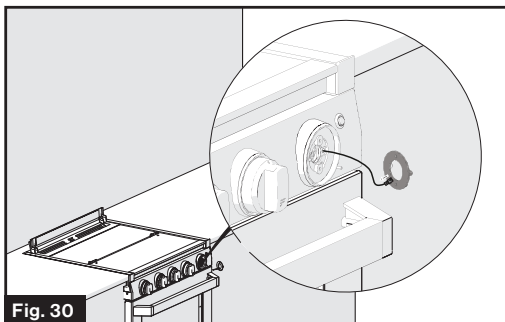

Fig. 30
- Remove the LED assembly and disconnect the wire from the base of the LED assembly. (Fig. 30)